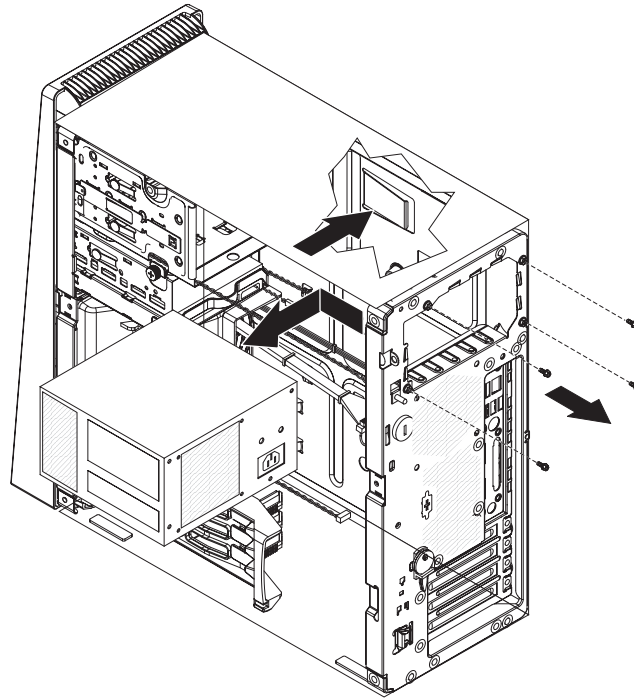

Figure 52. Removing the power supply
6. Remove the power-supply retaining screws from the rear of the computer (see Figure 52 on page 119).